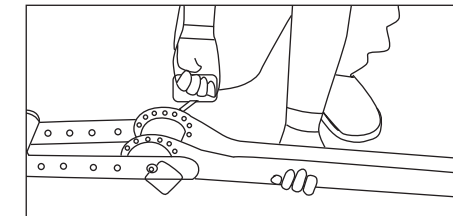

Fig 14
3. Remove upper pin from adjustable outer sleeve and front assembly and turn front assembly 180° and re-pin (Fig 14)